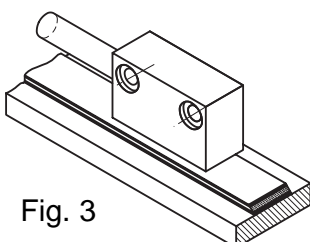
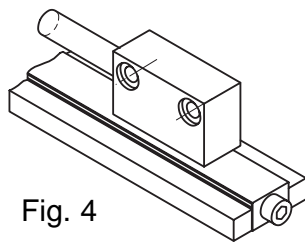

Fig. 3
Fig. 4
- Protect both ends of the magnetic strip against unintentional peeling, otherwise damage to the sensor and strip may result (fig. 4 and 5).
Mounting with chamfered ends (fig. 3) is not recommended unless the strip is installed in a safe and protected place without environmental influences. In less protected mounting places the strip may peel. There we recommend mounting accord. to fig. 4 and fig. 5.